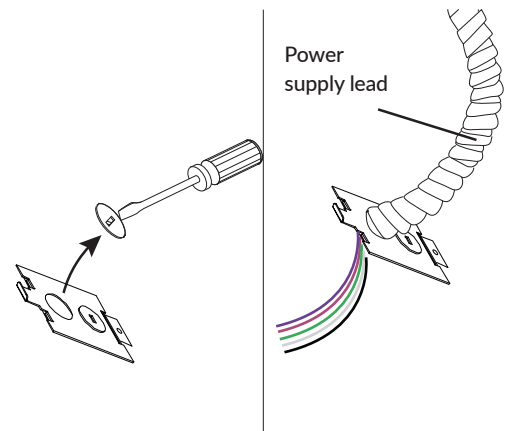

Figure 9
- Remove conduit knockout on access panel, route supply pigtail leads through access panel and secure with appropriate conduit adapter (not supplied). (Figure 9)